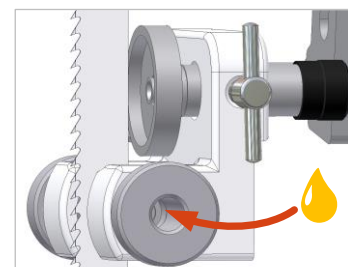

Figure 41: Oil APA side rollers
- Remove the sealing plugs from the rollers and put a few drops of oil in the bearings (see ⇒ Figure 41).